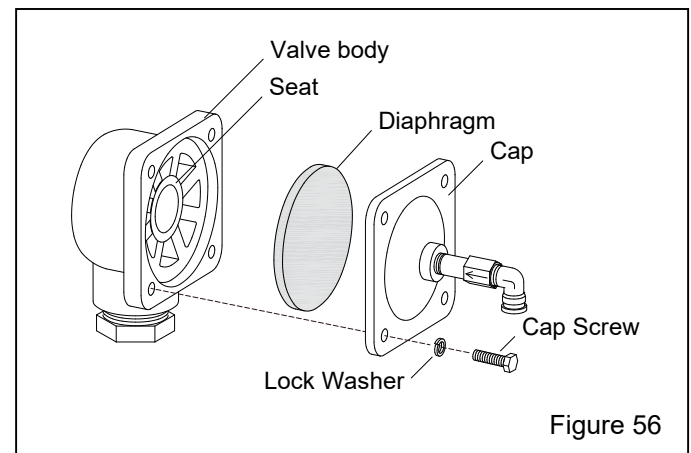

Figure 56
7.20 Diaphragm Outlet Valve – Figure 56